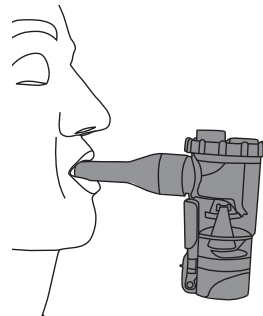

Figure 17
- When using the mouthpiece, enclose it fully with your lips (Figure 17).